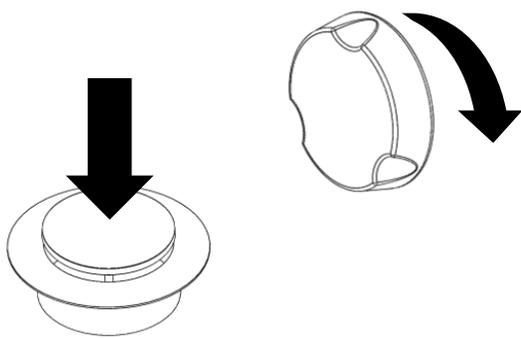

Fig 1
1. To close the pop up waste rotate the chrome turn handle clockwise until the waste plug locates in the outlet (fig 1).